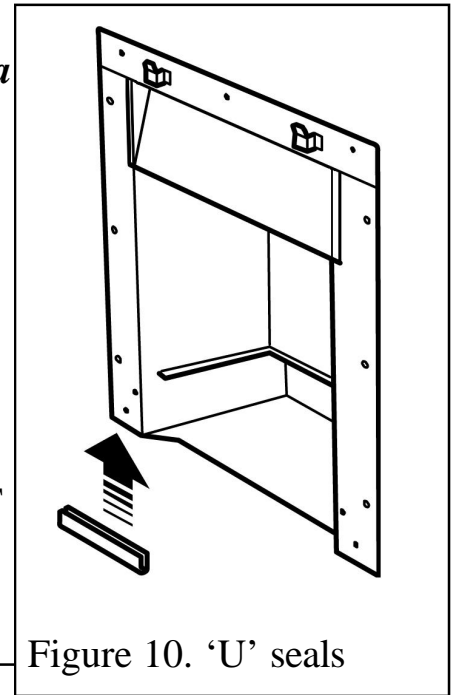

Figure 10. 'U' seals
2. Fit the two "U" section seals to the bottom edges of the hotbox side flanges (See figure 10).